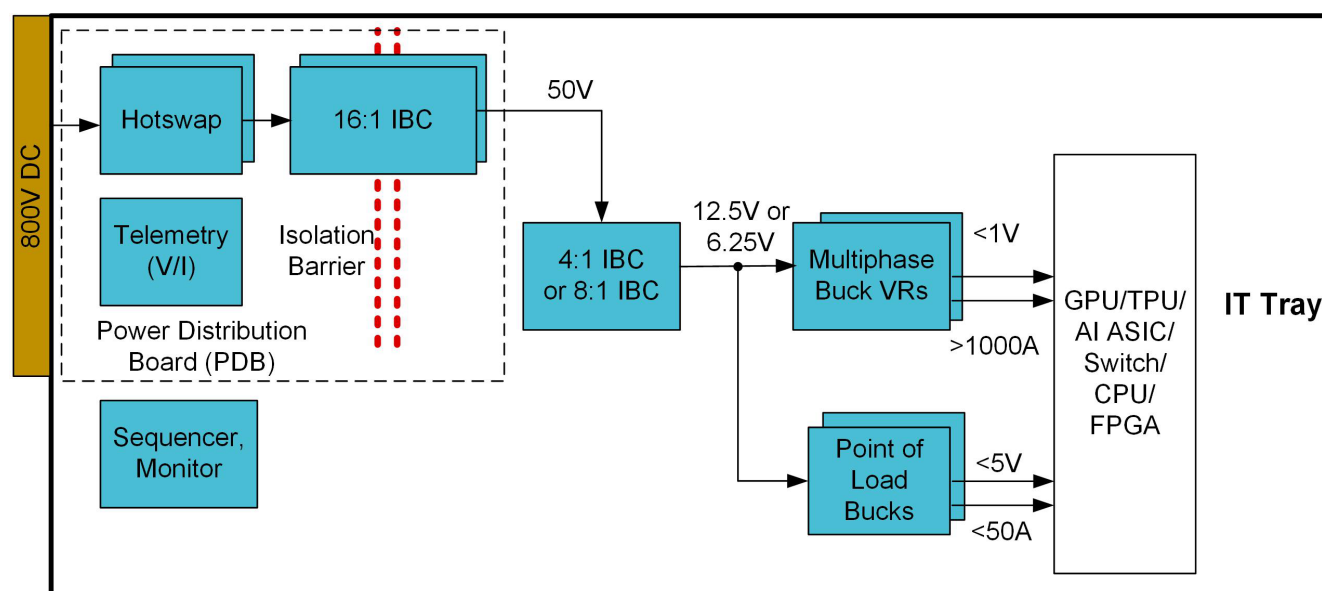

Figure 1. Example IT tray power architecture in a system with 800 VDC
Moving to 800 VDC will change the power delivery architecture, as depicted in Figure 1. The input to the IT tray is now 800 VDC, which will require a higher-voltage hot-swap circuit to control current inrush and to manage safe connection to the higher-voltage bus. A high-conversion-ratio intermediate bus converter (IBC) placed on the power distribution board converts energy down from 800 VDC to a lower intermediate bus voltage. An isolation barrier (with reinforced isolation) in this system could separate the high-voltage system from the low-voltage system. The rest of the power architecture would have a similar look and feel as the 48VDC artificial intelligence (AI) computing tray, but there are several possible variations. One option is an 800V to 50V IBC followed by a 50V to 12.5V or 6.25V IBC.